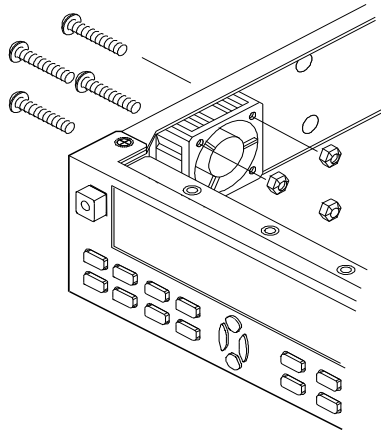

Figure 3-12 Cooling Fan Screws
- 5 Use a #1 Phillips screwdriver and a 1/4-inch wrench or spin tight to remove the four 4-40 x 1-inch panhead machine screws and 1/4-inch self-locking hex nuts that attach the cooling fan to the chassis (see Figure 3-12).